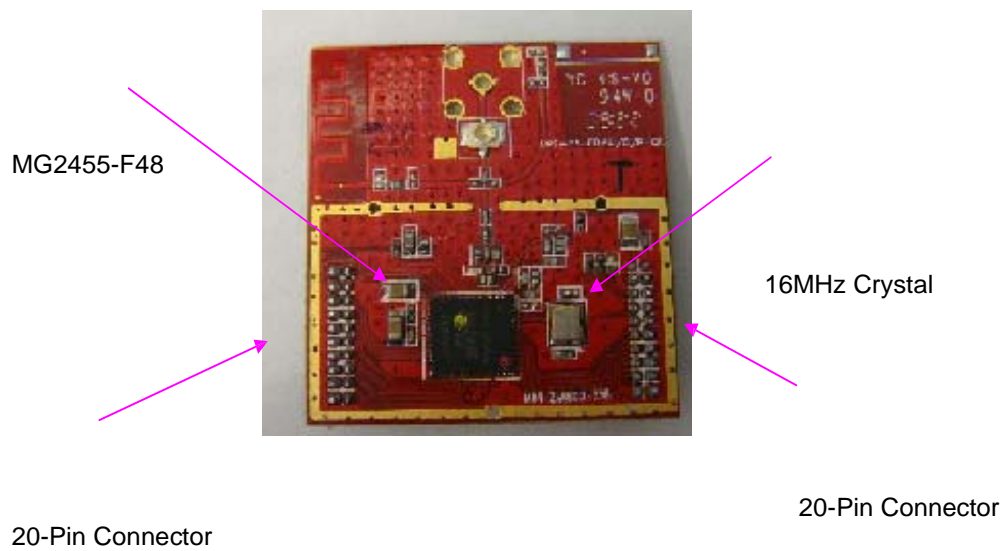

Figure 3. LM2455-EU
- ⌘ **Receive module(Rx on Figure3): 0 Input ⌘ 3 Input**
- ⌘ **Transmit module(Tx on Figure3): 3 Input. (DUT: Module for test)**